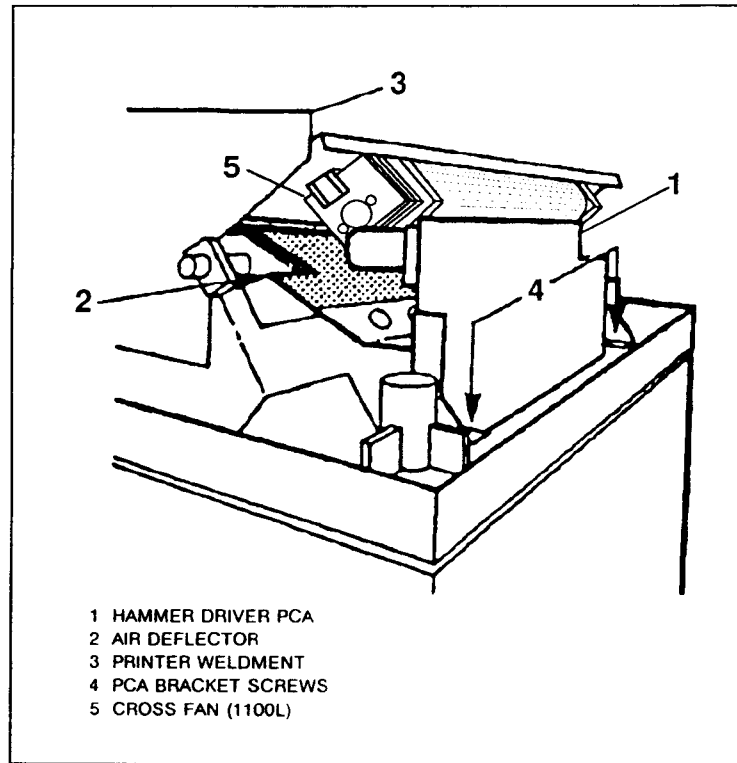

Figure 6-7. Hammer Driver PCA Air Deflector Placement
- b. From each end, remove the screw which holds the PCA bracket to the printer base (Figure 6-7, item 4).
When replacing the PCA, it is IMPORTANT that the plastic shield (Air Deflector) be positioned as shown in Figure 6-7. This shield is required to direct air flow over the printbar to maintain proper cooling (840L).